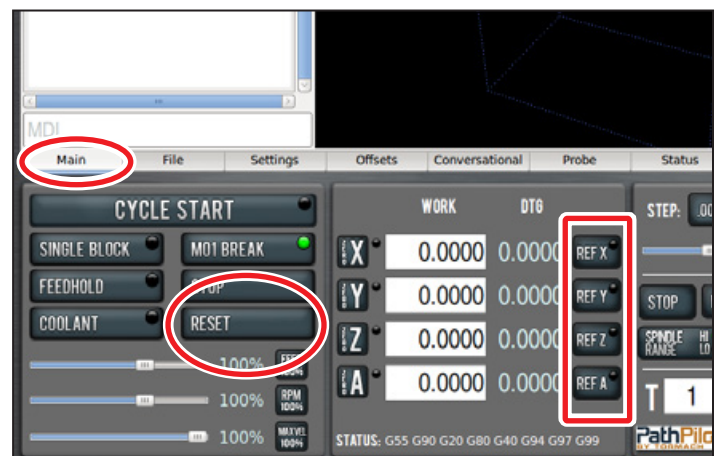

Figure 3.17
1. Reference the mill by clicking the *Ref Z*, *Ref X*, and *Ref Y* buttons (see **Figure 3.17**); the mill moves.